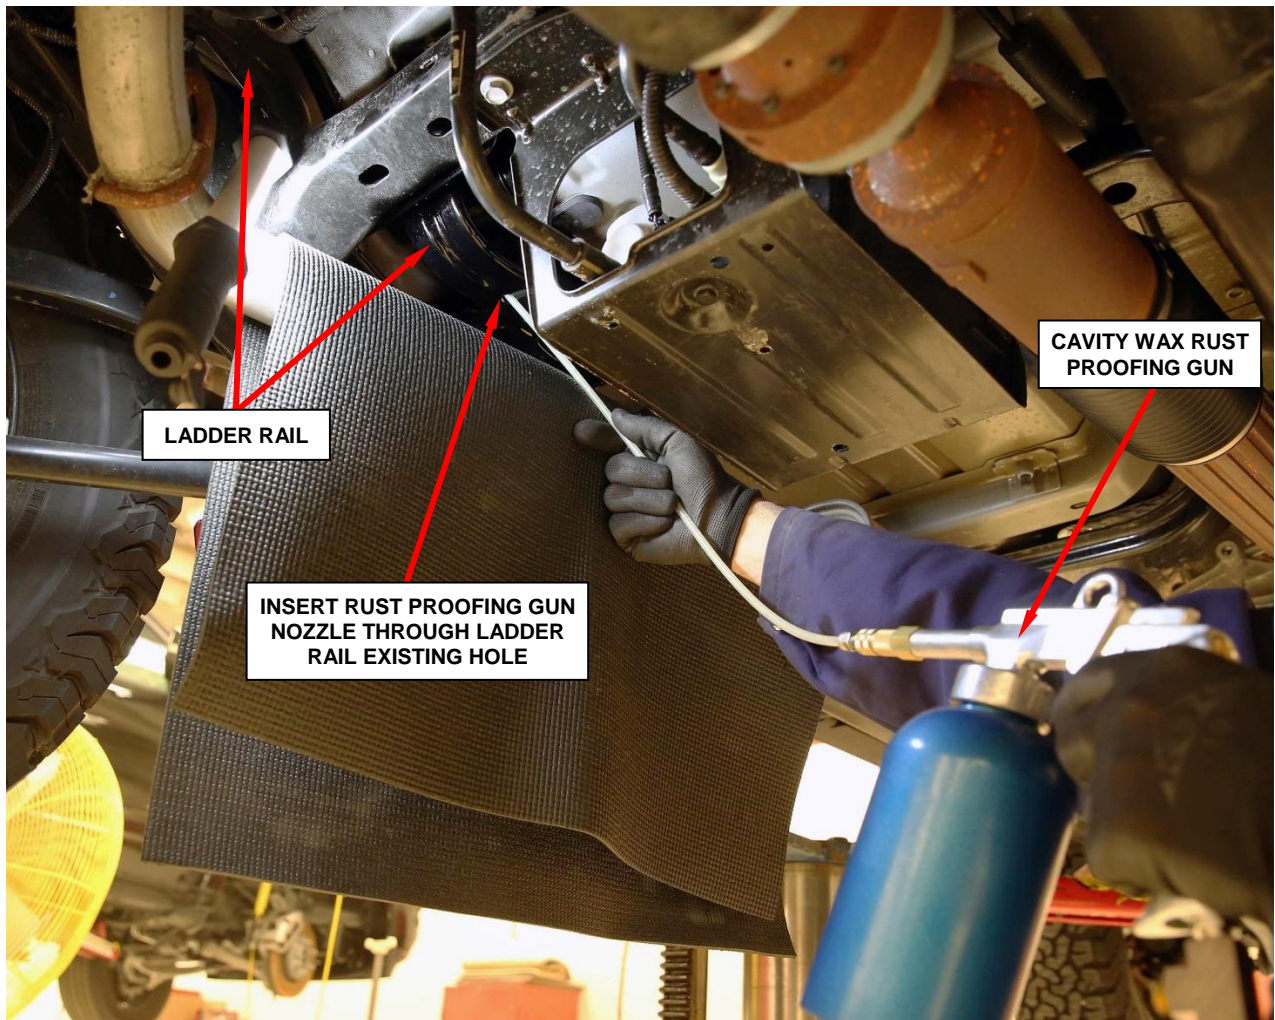

Figure 12 – Coat Ladder Rail Internal Surfaces with Cavity Wax
9. Use the rust proofing gun and cavity wax to coat the internal surfaces of the left side rear longitudinal under body ladder rail with cavity wax (Figure 12).